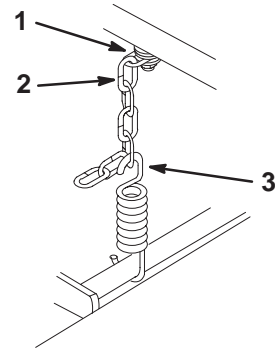

Figure 39
2. Hook the spring into the recommended link (Fig. 39).